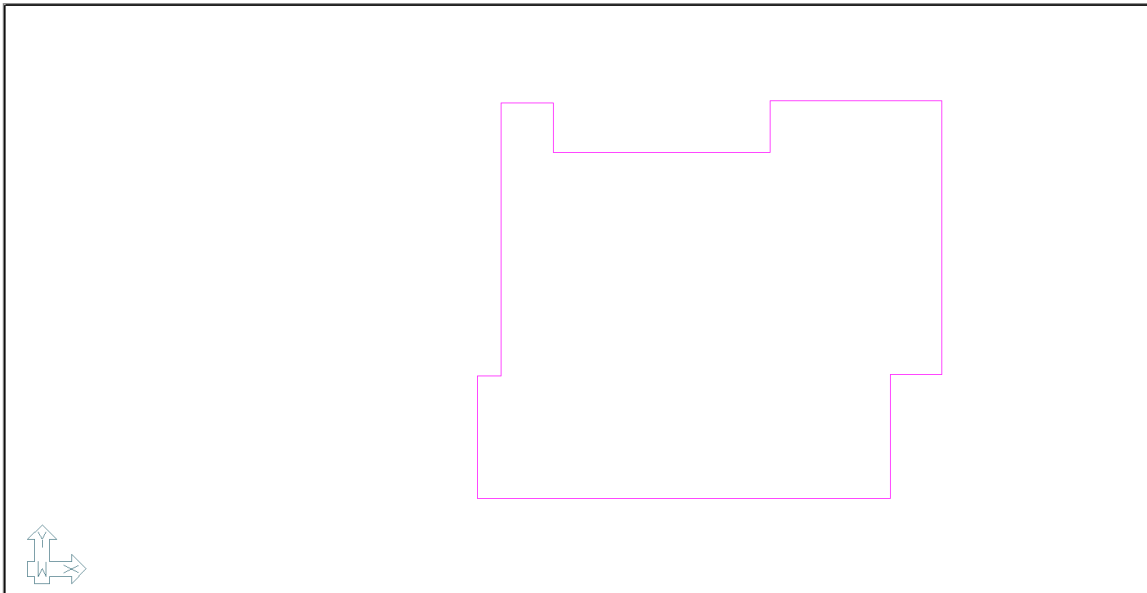

FIGURE 5-9
- Click on the **OK** button, the user should now see the slab region polyline from the imported DWG as shown in **FIGURE 5-9**.